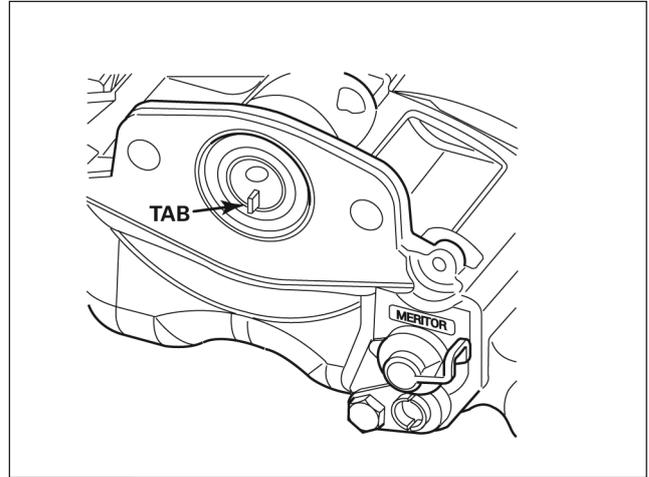

Fig. 1.16
5. Before you install the air chamber onto the caliper assembly, ensure the perforated transit plug is removed from the caliper chamber seal by pulling the tab. Fig. 1.16 and Fig. 1.17